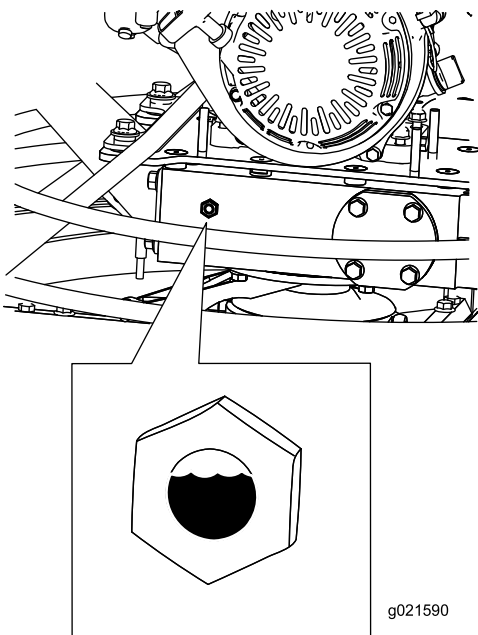

Figure 20
**Note:** The oil level in the sight glass of the plug should be 3/4 full (Figure 20).